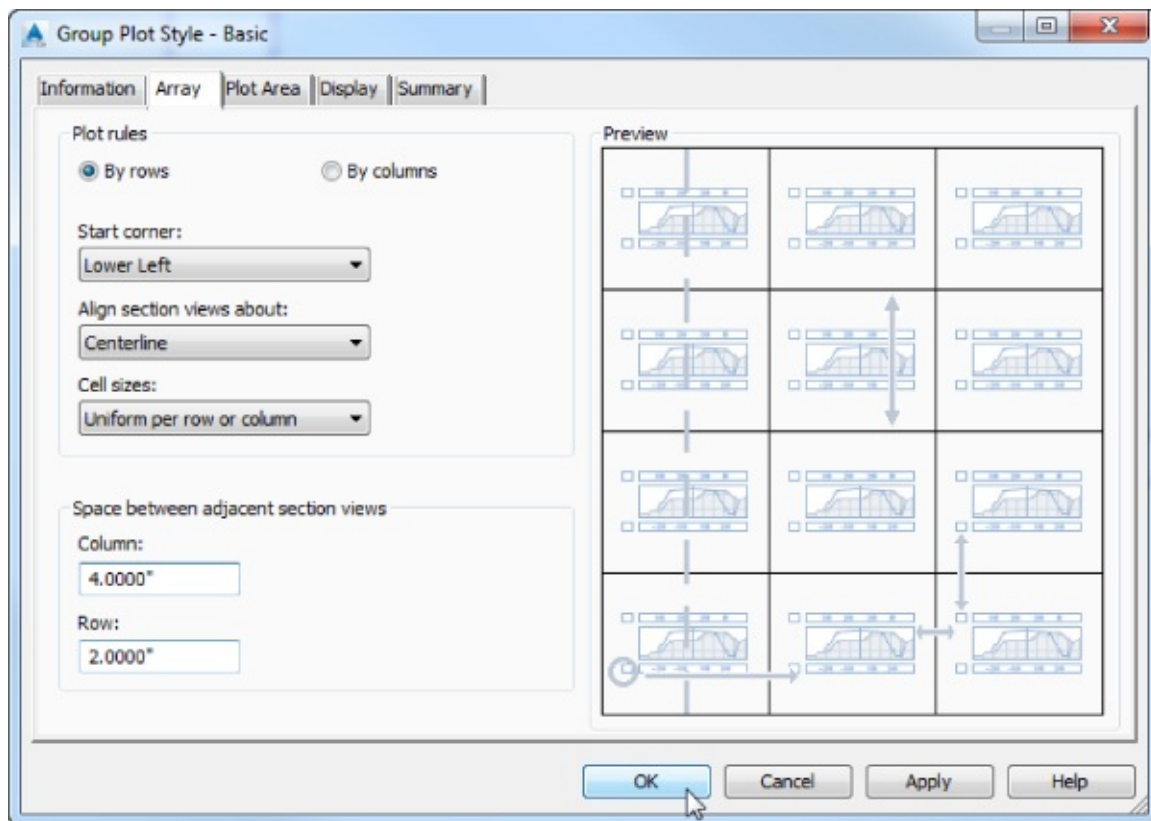

Figure 19.63 The Array tab controls section view spacing.
4. On the Array tab, change the column spacing to **4"** (or **100 mm**). Change the row spacing to **2"** (or **50 mm**), as shown in Figure 19.63.